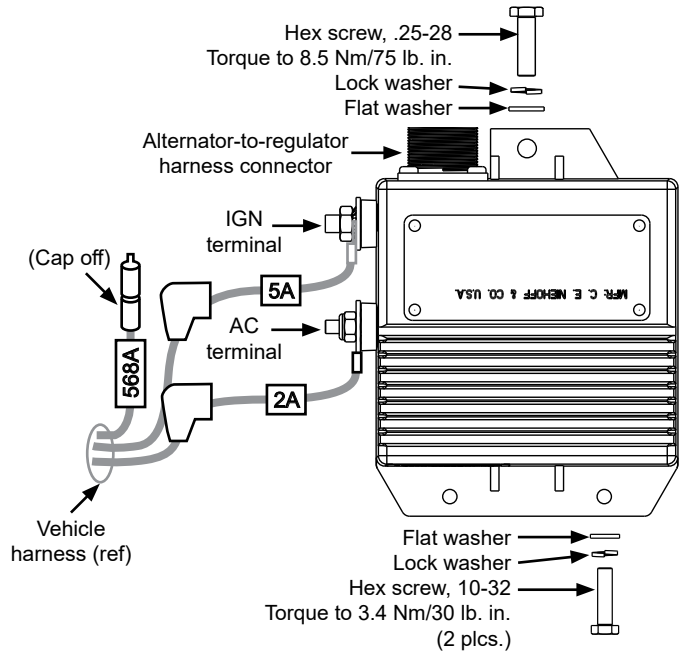

Figure 5: Typical Regulator Connections
2. Mount regulator on alternator or remotely¹ with included hardware as shown in Figures 5 and 6.
3. Securely plug alternator-to-regulator harness into receptacle on regulator. See Figures 5 and 6 for receptacle location.
- **IGN/E terminal** (required) must receive voltage from vehicle switched DC ignition source or multiplex in order to energize regulator. Torque to 3.4 Nm/30 lb. in. See Figure 5 and 7.
- **P/AC terminal** (if required) taps AC voltage from alternator, typically half the charge voltage (3A maximum). P/AC terminal provides alternator RPM frequency at 10:1 ratio for use with tachometer. Torque terminal hardware to 3.4 Nm/30 lb. in. See Figures 5 and 7.